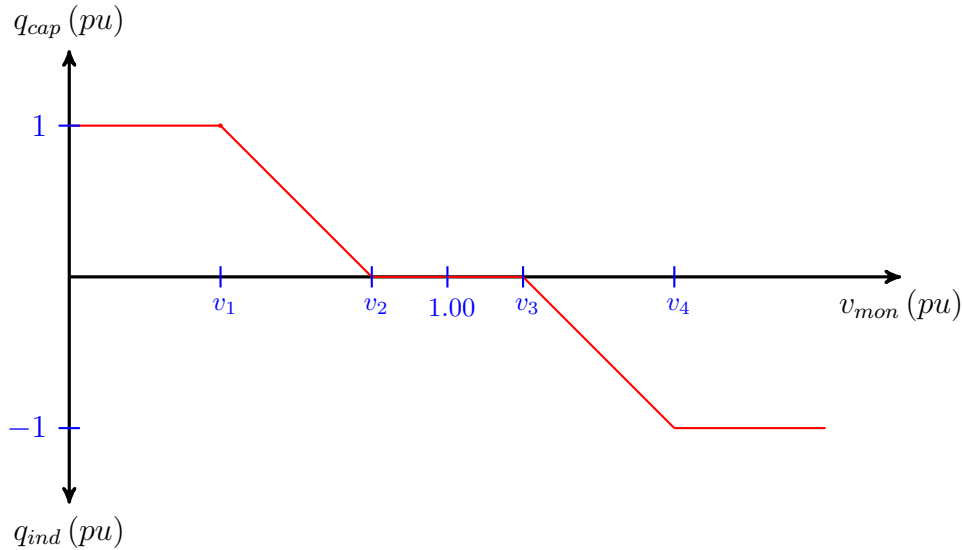

Figure 9: volt-var curve
**Smart Inverter volt-var Function** For the smart inverter volt-var function, the monitored voltage in *pu* is applied,  $v_{mon}[t]_j$ , in the volt-var curve defined in the *vvc\_curve1* property to obtain the desired reactive power value in *pu*,  $q_{Dfun}[t]_j$ . The Figure 9 below shows an example of a user-defined volt-var curve.